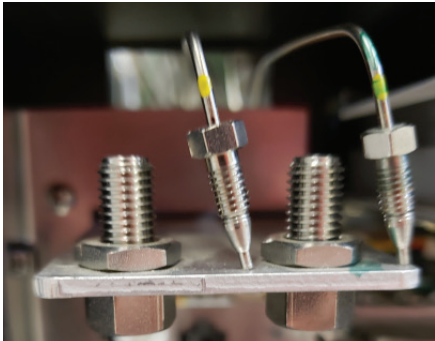

Figure 9: Upper bulkhead connections disconnected
1. Using a 1/4" open end wrench, disconnect the upper Valco bulkhead connections (Figure 9)